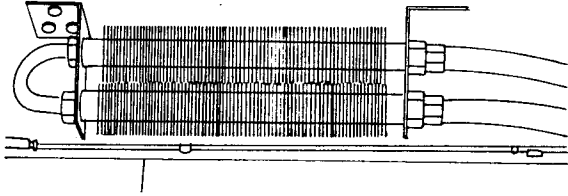

Fig B4.112
- (1) Refer to Fig B4.112. Remove the six nuts and bolts securing the oil cooler to the chassis.
- (2) Lower the oil cooler from the chassis.
- (2) Fig B4.112 still applies. Position the oil cooler on the chassis and secure with the six nuts and bolts.